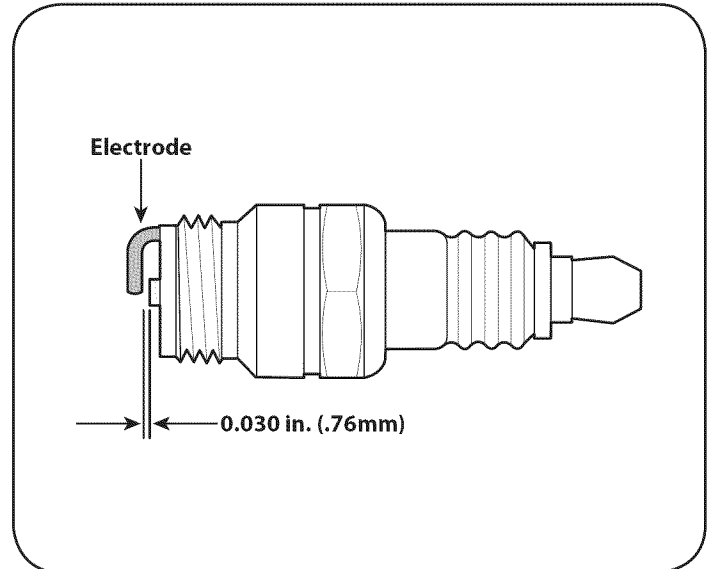

Figure 11
3. Check the gap with a wire gauge. See Figure 11. Spark plug gap should be 0.030 in (0.76 mm). If necessary, reset the gap.